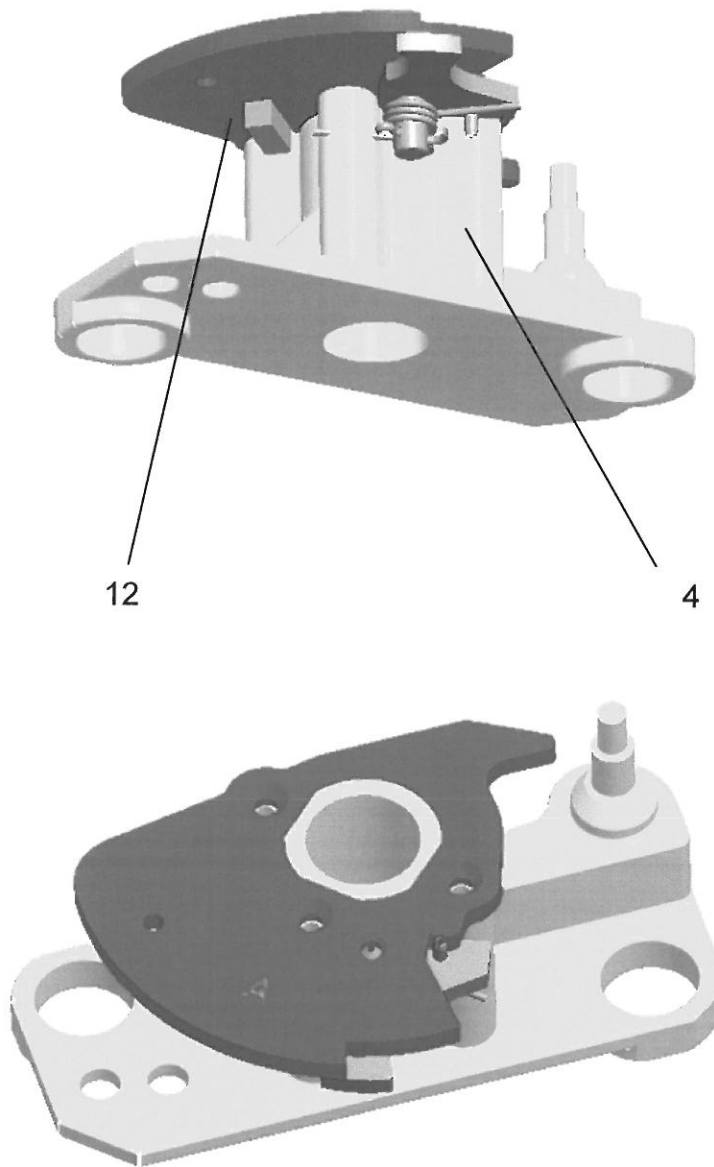

Fig.13 Cam 50726261, and 50726261-01 installed on teeter lever base.
12. Install the cam assembly 12 on the teeter-lever base 4 (Fig. 13) with the keys down and the three screw holes in the cam aligned with the threaded holes in the base 4. (Fig.13, 14)